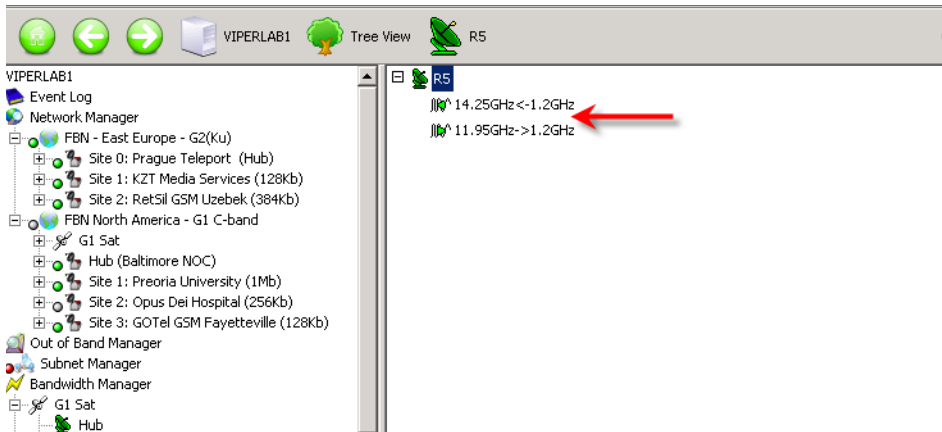

Figure 3-20 Converter Icons on Antenna View
3. Notice that the newly created Up and Down Converters appear in the Antenna View (figure 3-20).